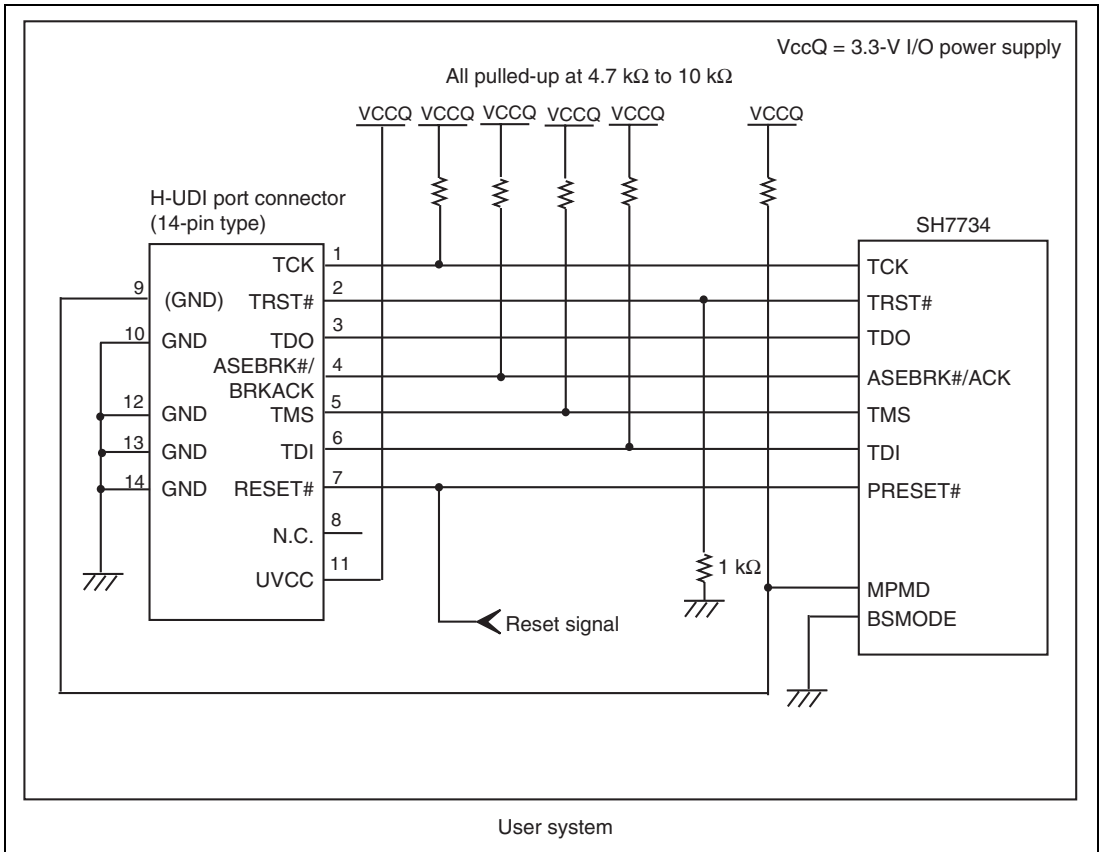

Figure 1.6 Recommended Circuit for Connection between the H-UDI Port Connector and MPU when the Emulator is in Use (14-Pin Type)
Figure 1.6 shows a recommended circuit for connection between the H-UDI port connector (14 pins) and the MPU when the emulator is in use.
- (1) When the emulator is used: $MPMD = 0$
- (2) When the emulator is not used: $MPMD = 1$Figure 1.6 shows an example of circuits that allow the MPMD pin to be GND (0) whenever the emulator is connected by using the user system interface cable. When the MPMD pin is changed by switches, etc., ground pin 9. Do not connect this pin to the MPMD pin.
6. The resistance values shown in figure 1.6 are for reference.
When the circuit is connected as shown in figure 1.6, the switches of the emulator are set as SW2 = 1 and SW3 = 1. For details, refer to section 3.8, Setting the DIP Switches, in the SuperH™ Family E10A-USB Emulator User's Manual.